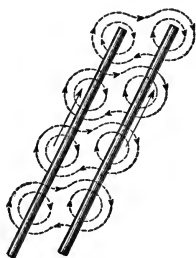

FIG. 23.
**27.** Two parallel conductors, both transmitting currents of electricity, are either mutually attractive or repellant, depending upon the relative direction of their currents. If the currents are flowing in the *same* direction in both conductors, as represented in Fig. 23, the lines of force will tend to surround both conductors and contract, thus *attracting* the conductors.